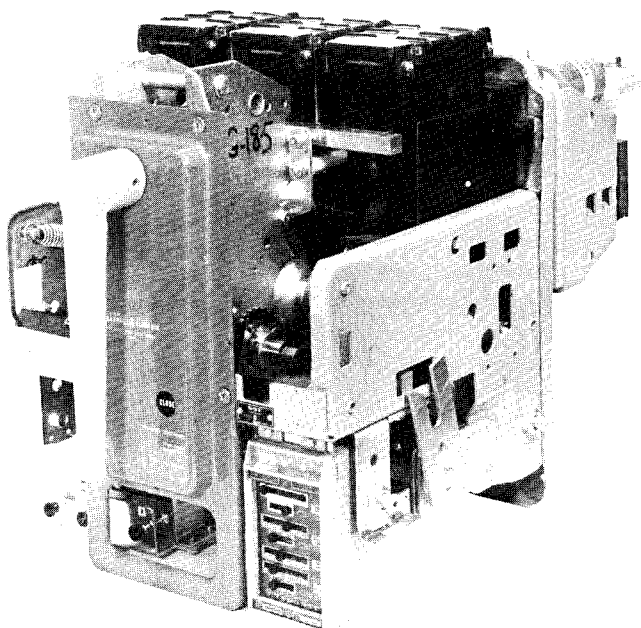

Fig. 2
#### CODE A (AKD-6 SWITCHGEAR) (Fig. 2)
**NOTE:** To avoid damaging the arc quenchers, a spreader bar must be used for hoisting these breakers. Two hoisting slots are provided in each side frame—see Fig. 2. The spreader bar's hooks should be placed in the forward slots for non-fused breakers and in the rear slots for fused breakers.